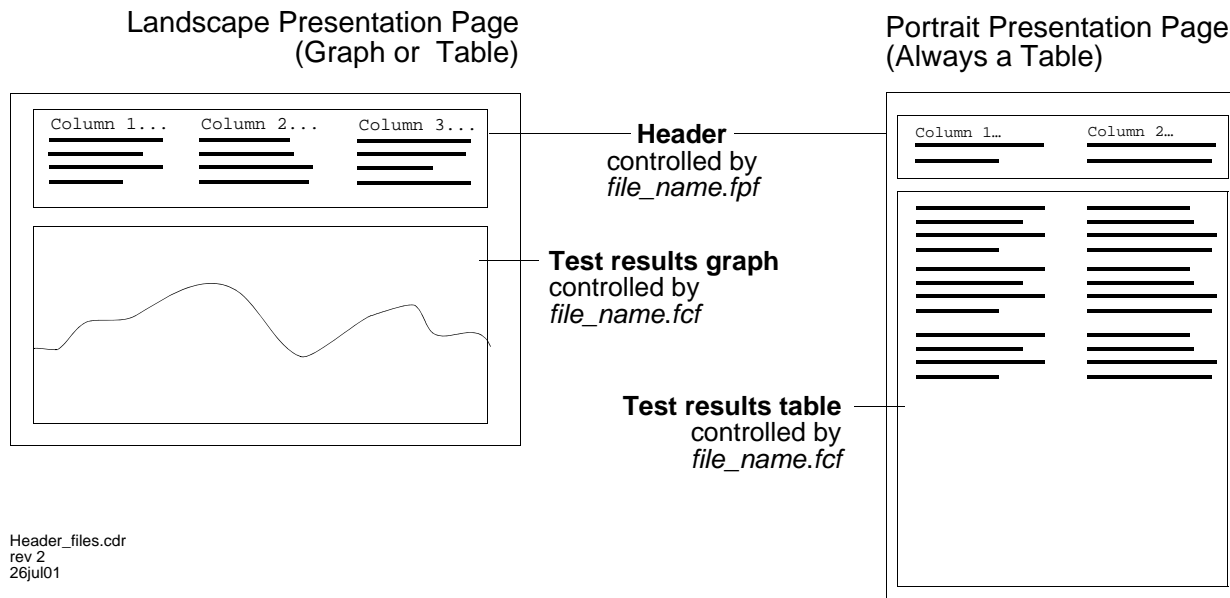

Figure 7 Presentation page layout examples
- A single format control file can contain instructions to present data both as a graph and as a table. See Figure 7.